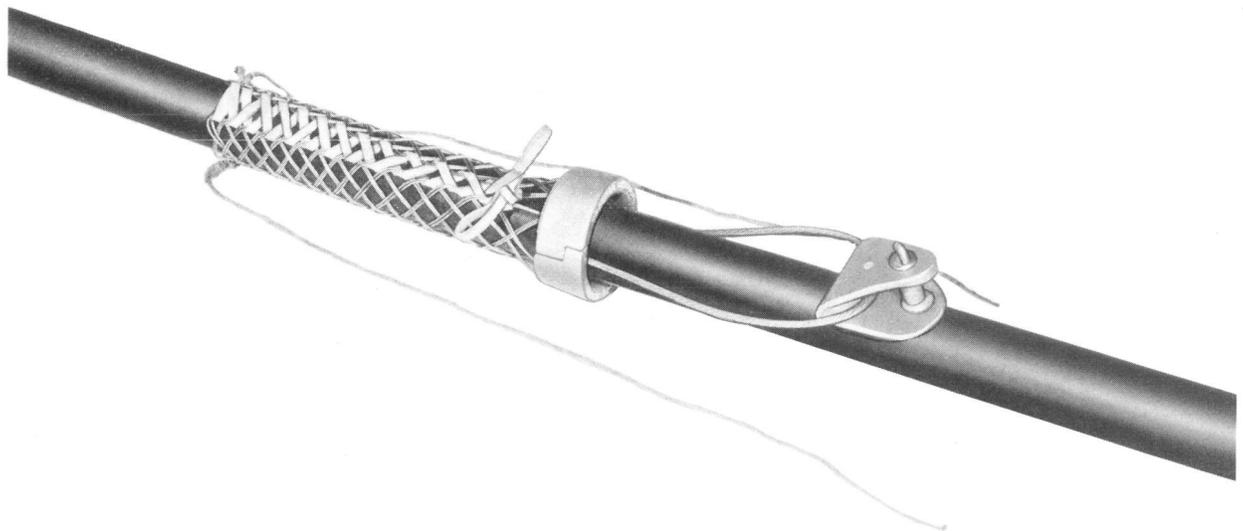

Fig. 16—Luffing Grip Laced on Cable
11.12 *Stop the pull when the cable reaches the sheave or quadrant block in the terminal manhole. Additional cable slack can be developed in the manhole by "fleeting" the cable forward using cable luffing grips.* Remove lubricant from the cable and install the luffing grip on the plastic sheath layer as shown in Fig. 16. Gripping force can be increased if necessary by wrapping one layer of friction tape (one inch of sheath showing between wraps) on the sheath under